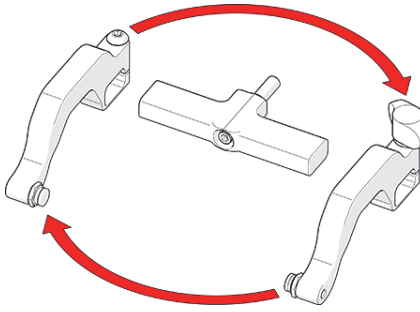

Figure 3-30 Reverse position around yoke
4. Position the removed arms to the opposite sides of the yoke (see Figure 3-30 on page 57).